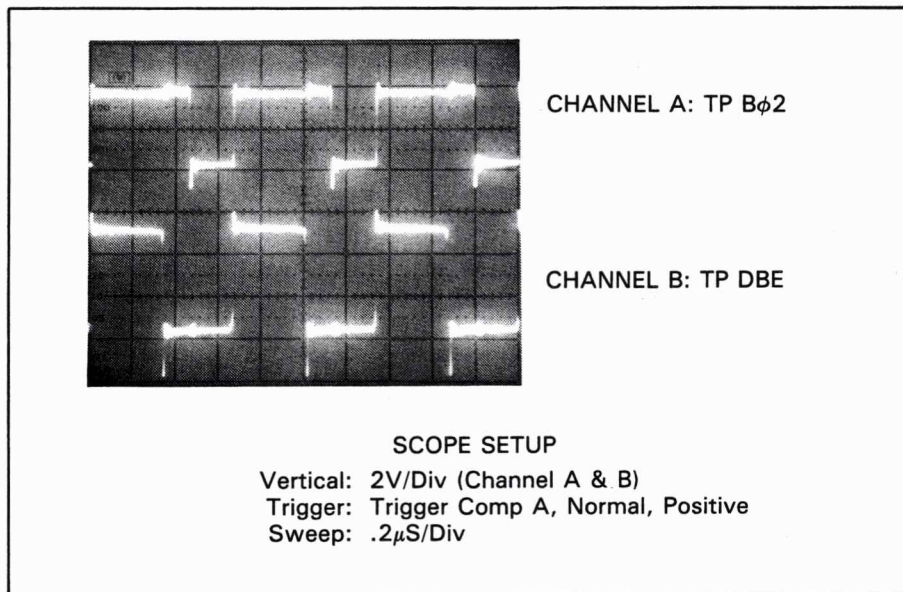

Figure 8-A1-1. B ϕ 2 and DBE Clock Signals
- k. Check for clock signals at TP B ϕ 2 and TP DBE. Use an oscilloscope (the 1741A) to check for the signals shown in Figure 8-A1-1. Use the scope set-up information given in the figure to configure the scope.
- n. Remove bus break RP3 from its socket (see Figure 8-A1-2).
- o. Using short clip leads, connect test points W11 (data line D5) and W12 (data line D7) to ground, as shown in Figure 8-A1-2. This places the 3497A into the free-run SA mode.
p. Obtain a signature analyzer and connect as follows (see Figure 8-A1-2):